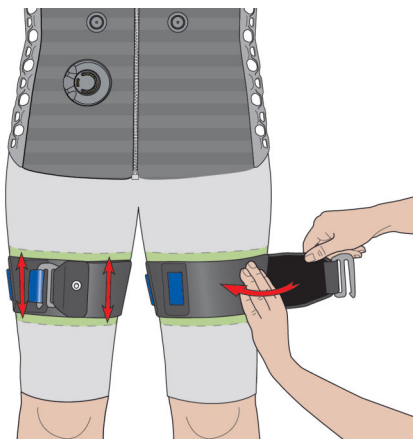

Fig. 44: Putting on the i-body® strap flex
14. ➤ Pre-stretch one i-body® strap flex and strap it on the leg (Fig. 44).